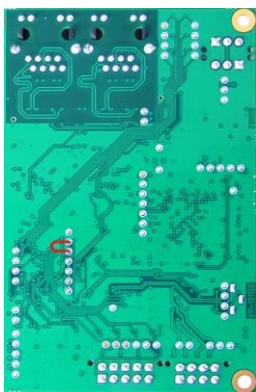

Figure 8.1 Reset to factory defaults (bottom view of pcb - interface brick end)
2. Short two pads of programming connector pad-array (see figure 8.1).